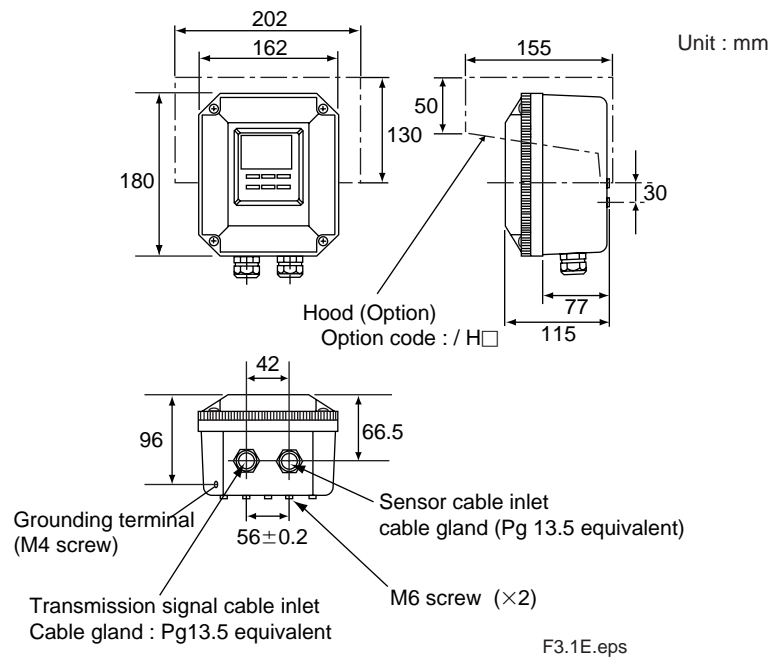

Fig. 3-1. Housing dimensions and layout of glands
- Access to the cable glands is possible (see figure 3-1)